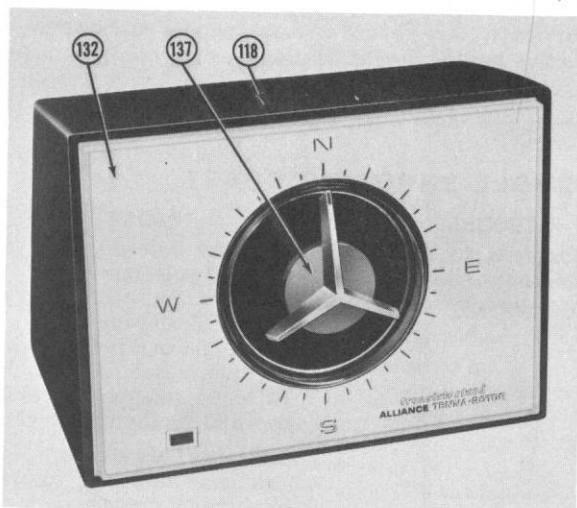

Fig. 74. Control Box—Model C-225A.
For location of parts in the control, see Figs. 74, 75, and 76.
2. Turn the control knob (Item #137, Fig. 74) to the extreme clockwise stop. The rotor must turn to the extreme clockwise stop and the light must turn off when the rotor reaches the stop.
ROTOR	The Model C-225A uses the same rotor as the Model C-225. A resistance check chart, rotor parts list, and an exploded view of the rotor may be found in Chapter X. For location of components of C-225A control, see Fig. 74, 75 and 76.